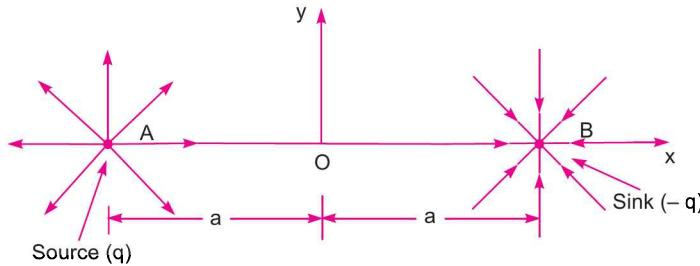
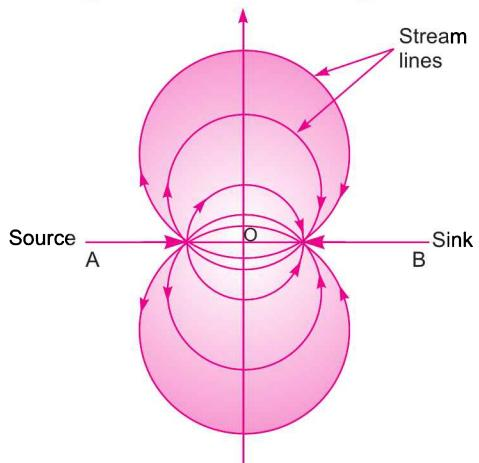

Fig. 5.39 Source and sink pair.
Fig. 5.40 Stream lines for source-sink pair.
5.17.1 Source and Sink Pair. Fig. 5.39 shows a source and a sink of strength q and $(-q)$ placed at A and B respectively at equal distance from the point O on the x -axis. Thus the source and sink are placed symmetrically on the x -axis. The source of strength q is placed at A and sink of strength $(-q)$ is placed at B . The combination of the source and the sink would result in a flownet where stream lines will be circular arcs starting from point A and ending at point B as shown in Fig. 5.40.
To satisfy this, the locus of P must be a circle with AB as chord, having its centre on y -axis, as shown in Fig. 5.40.